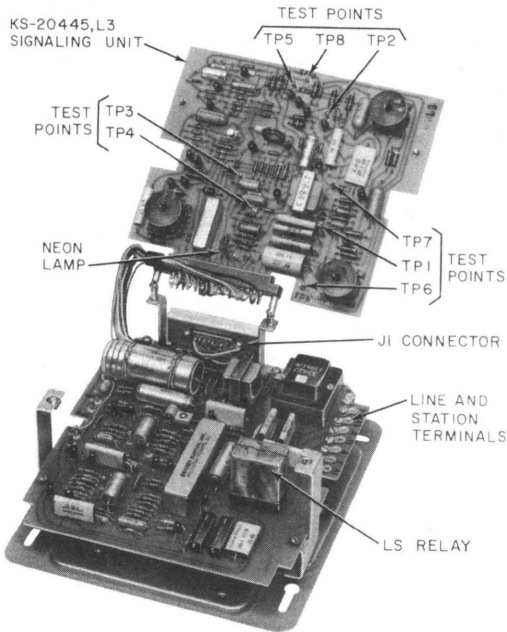

**Fig. 1—KS-20445, List 1 Control Unit, CAU, Cover Removed, Test Points**
**KS-20445, List 1 Control Unit, CAU, (Fig. 1)**